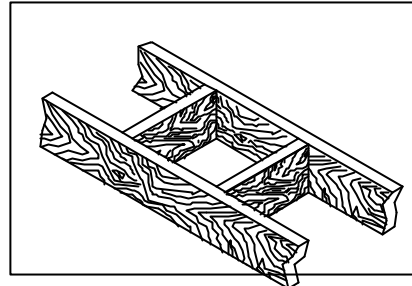

Figure 25
1. Cut and frame the holes in the ceiling, floor and roof where the chimney will pass (see figure 25). Use a plumb bob to line up the center of the holes. The sizes are indicated in table 1 for the floor and ceiling holes and table 2 (page 27) for the roof holes.